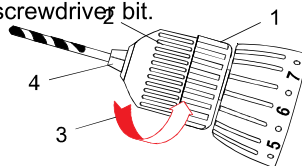

Fig. 8
1. To open the keyless drill chuck, grasp and hold the chuck collar (1) with one hand (Fig. 8). Rotate the chuck body (2) with the other hand in a counter-clockwise direction (3) until the chuck jaws (4) open wide enough to accept the bit.